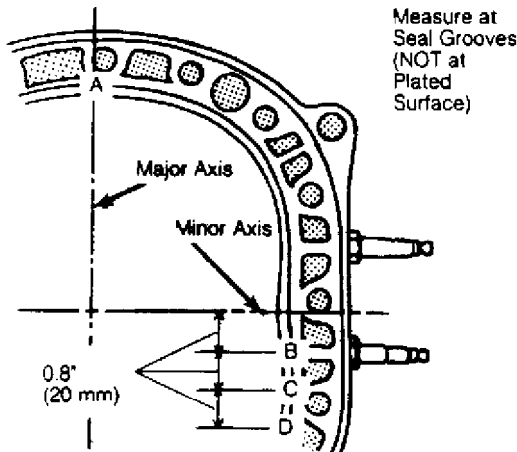

Fig. 11: Rotor Housing Width Check Points
4) Using an outside micrometer, measure rotor housing width at points A, B, C, and D in Fig. 11. Replace rotor housing if difference between point A and smallest value of points B, C and D exceeds .0024" (.06 mm).
1) Inspect rotor for wear or damage, and check internal gear for chips, cracks or scoring. Measure rotor width at 3 points on face of internal rotor gear. Compare maximum rotor width dimension with rotor housing width dimension "A" in Fig. 11 to determine clearance.